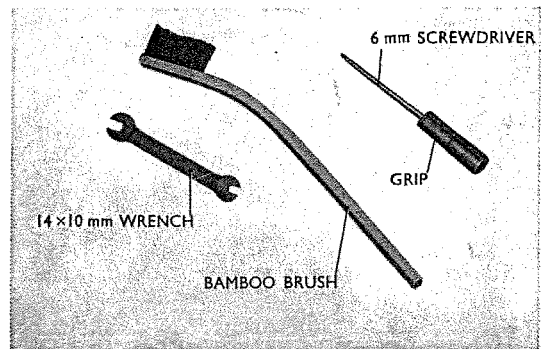

Fig. 6.23 Tools required for cleaning the air cleaner
- a. Tools required for cleaning the air cleaner. (Refer to Fig. 6.23)